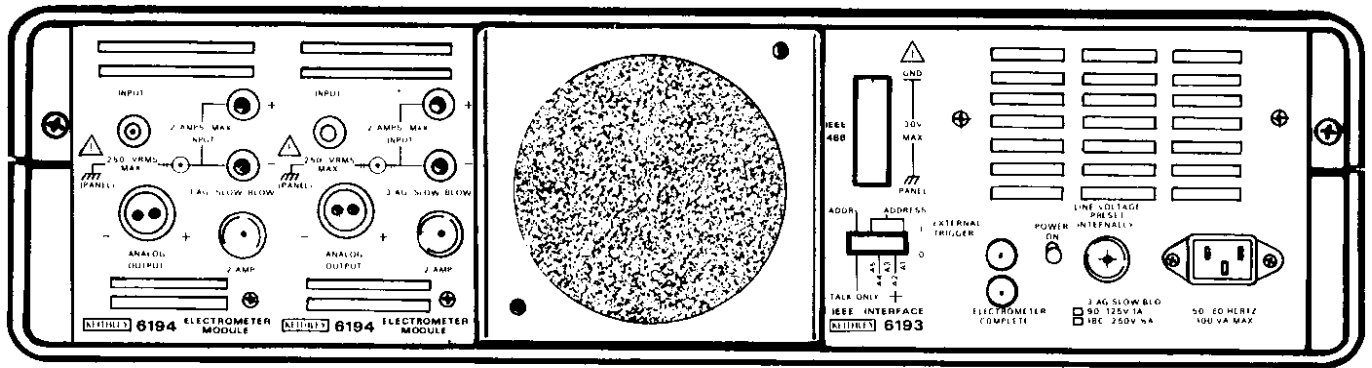

Figure 2-1. Model 619 Rear Panel
The Keithley Model 619 is a fully programmable, micro-processor based Electrometer/Multimeter. Its broad measurement range is from 2nA, with 100fA (10^{-13} A) resolution on the most sensitive range, to 2A. The Model 619 ohms measurement range is from 2k (0.1Ω resolution) to 2T. The volts measurement range is from 200mV (1μ V resolution) to 200V. The Model 619 is capable of 0.0005% resolution. It can be interfaced to any programmable measurement system utilizing the IEEE-488 Interface bus. (See Figures 2-1 and 2-2 for front and rear panel detail.)
2.6 TALK ONLY MODE/ADDRESSABLE MODE SELECTION (see Figure 2-1)